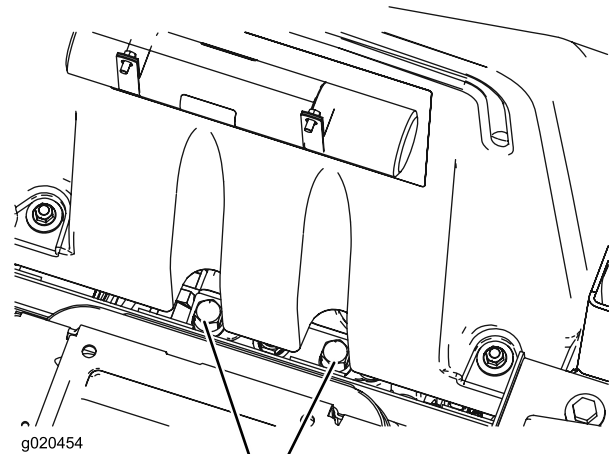

Figure 31
1. Raise the seat and locate the bypass valves, which are located below the front of the fuel tank (Figure 31).